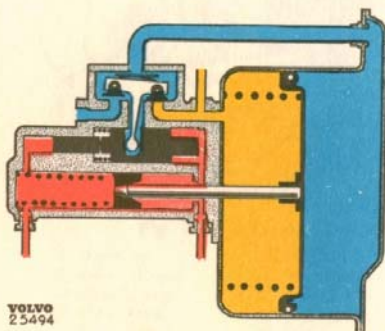

**Fig. 7-6. Rest position**
(1) where it is boosted. The pressure then moves out to the wheel unit cylinders (9 and 13) in which the plungers are pressed outwards and apply the brakes. The servo-brake cylinder functions as described below. Regarding the significance of the colors on the figures, see Fig. 7-6.
When the system is at rest (Fig. 7-6) the control plunger is kept pressed to the right so that the air valve remains closed and the vacuum valve open. The same vacuum therefore exists on both sides of the vacuum plunger which is kept pressed to the right by the return spring. When the pressure in the master cylinder rises, the hydraulic pressure in the servo-brake cylinder also rises to the same extent. Since the right-hand pressure surface of the control plunger is larger than the left, the plunger is moved to the left. When this happens the valve arm also moves, the vacuum valve closes, the air valve opens and air flows into the right side of the vacuum plunger.